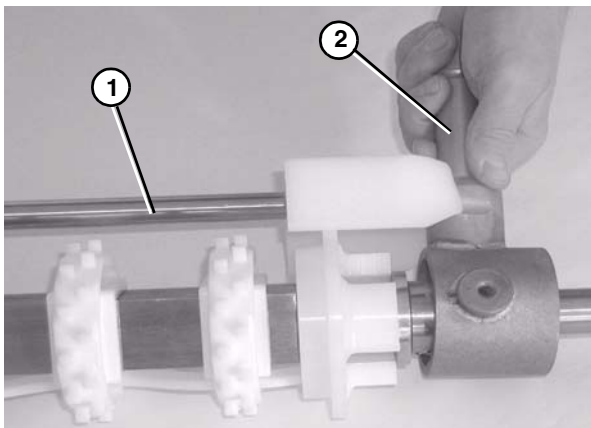

Figure 75
- Attach the guard bar (**Figure 75, item 1**) to the bearing / motor mount bracket shafts (**Figure 75, item 2**).